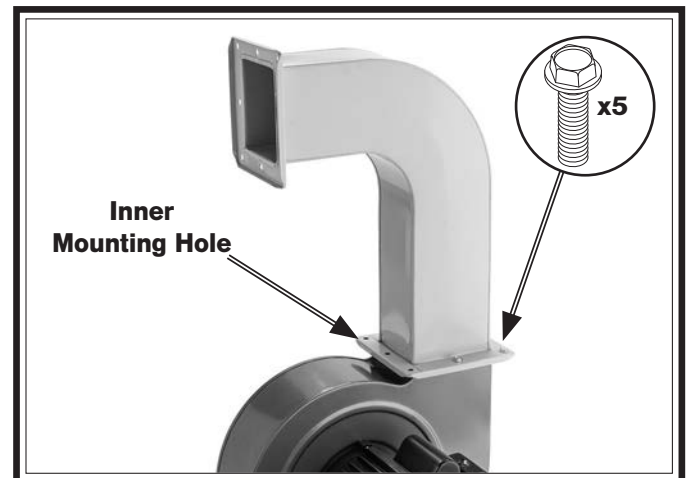

Figure 13. SB1100 outlet tube attached.
4. Attach outlet tube to impeller outlet with (5) $\frac{5}{16}$ "-18 x $\frac{1}{2}$ " flange bolts (see **Figures 13 & 14**). Do not use three inner mounting holes.